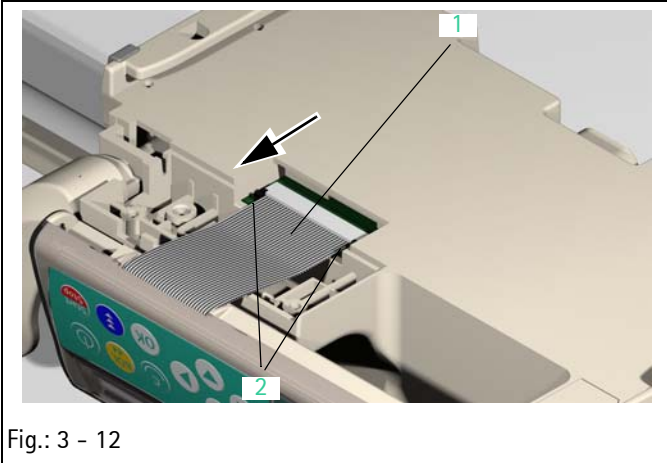

Fig.: 3 - 12
3. Remove the PCA-slide (Fig.: 3 - 11 / Item 5) and the PCA-eccentric (Fig.: 3 - 11 / Item 4) out of the housing bottom part.
Legend of fig. 3 - 12: